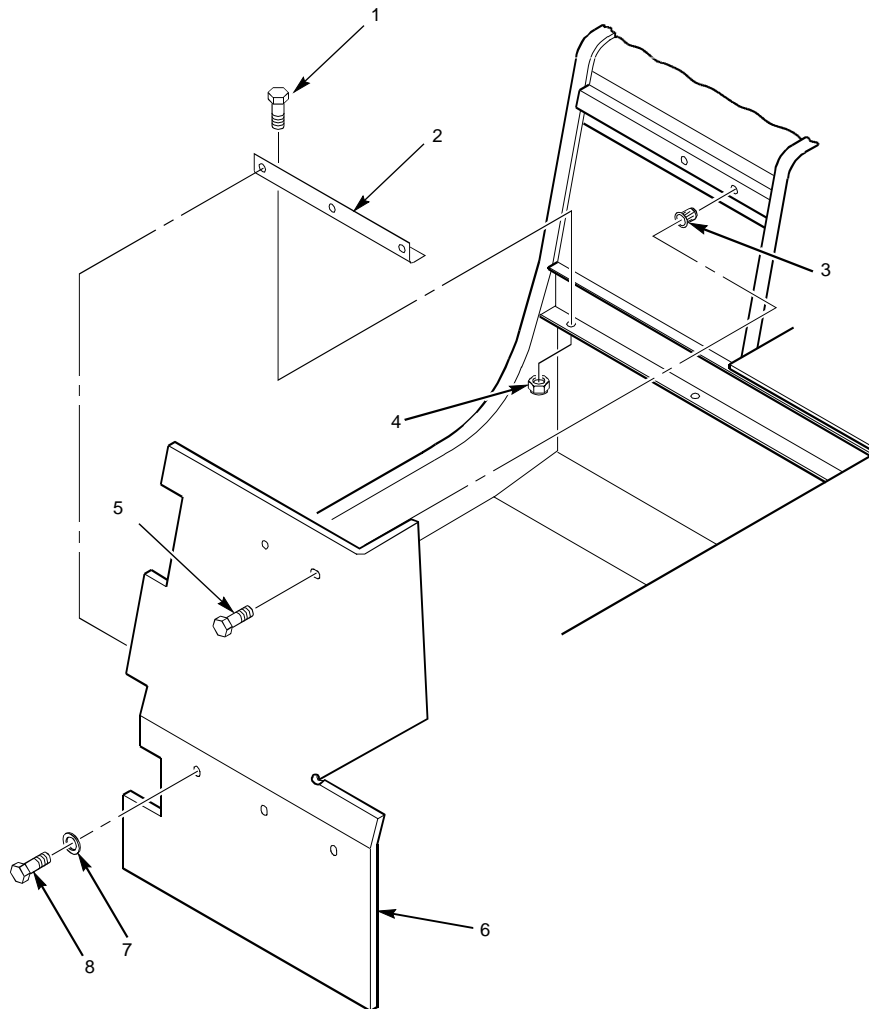

Figure 2-12. Rear Seat Backing Plates Removal (4 Door Only)
1. Remove rear seat backing plates as follows (see figure 2-12).
- a. Remove two capscrews (5), three capscrews (8), and three washers (7) securing rear seat backing plate (6) to vehicle. Remove rear seat backing plate (6).
- b. Remove two capscrews (1) and locknuts (4) securing seat backing support (2). Discard locknuts (4). Remove seat backing support (2).